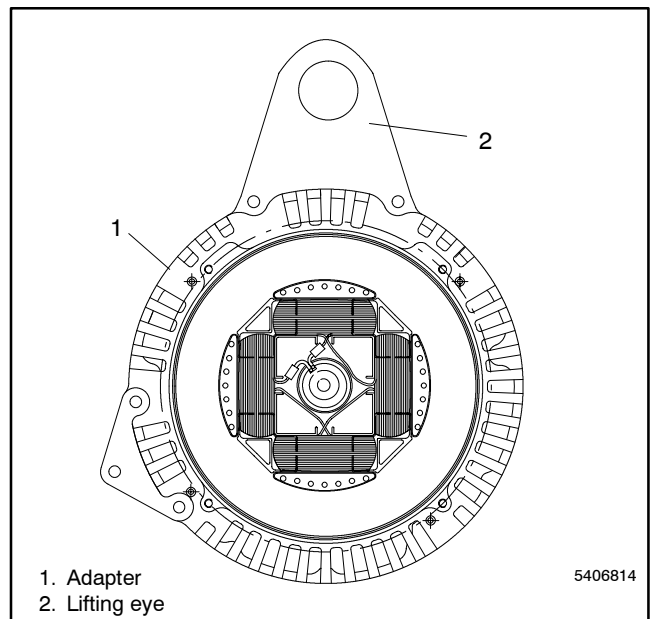

Figure 6-25 Lifting Eye
3. Position adapter on engine. Attach lifting eye to adapter/engine with two mounting bolts and lock washers. See Figure 6-25. Reinstall magnetic pickup, if removed, and verify flywheel/magnetic pickup air gap of 0.51–1.27 mm (0.020–0.050 in.).